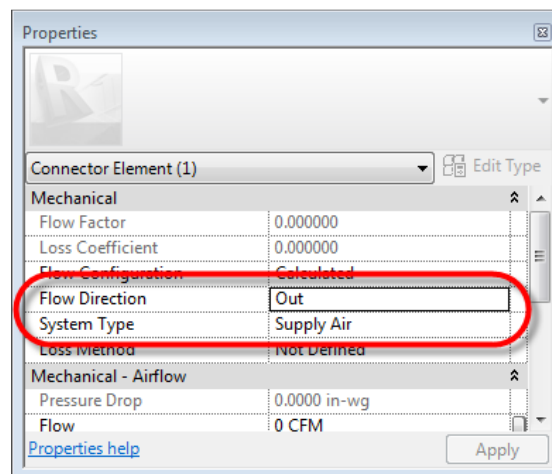

Figure 44. Defining the properties of the Outlet Duct Connector.
5. With the Connector still selected, in the **Properties** dialog, set *Flow Direction* to **Out** and make sure that the *System Type* is set to **Supply Air** as in Figure 44.